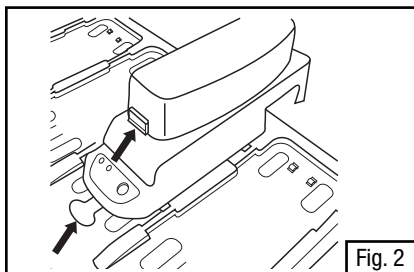

Fig. 2
5. Battery pack removal (Fig. 2)